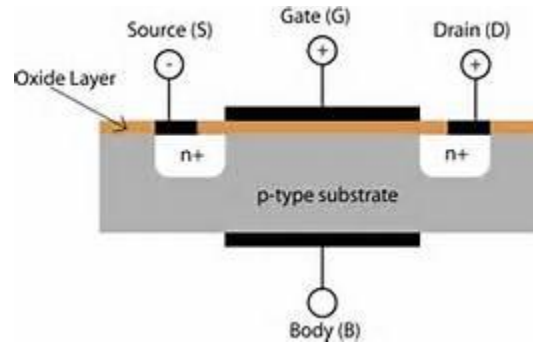

Figure 22. MOSFET Diagram
A **MOSFET** is a three terminal device with the three terminals being the **Gate (G)**, the **Source (S)**, and the **Drain (D)**. There is a fourth terminal, the **Body (B)**, but this is almost always shorted and connected with the Drain inside of the MOSFET (Figure 22).